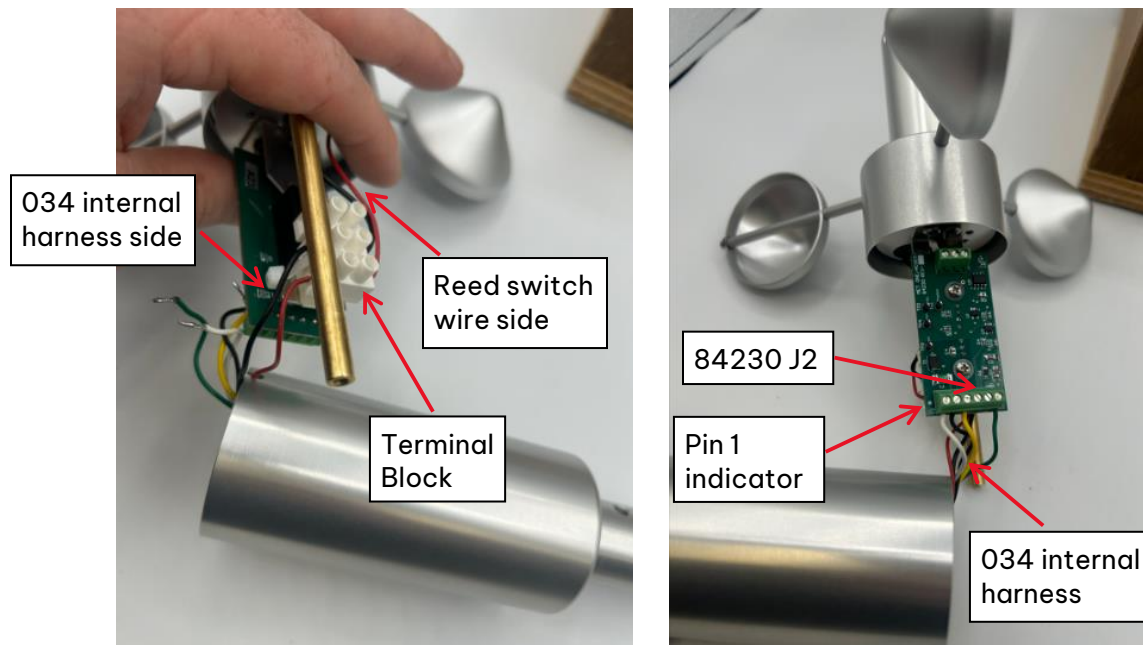

Figure 5-9 Internal harness wiring
- F. Using care to avoid stressing switch leads while routing, connect the switch wires in the terminal strip. Match wire colors with sensor connector harness. Refer to Figure 5-9.